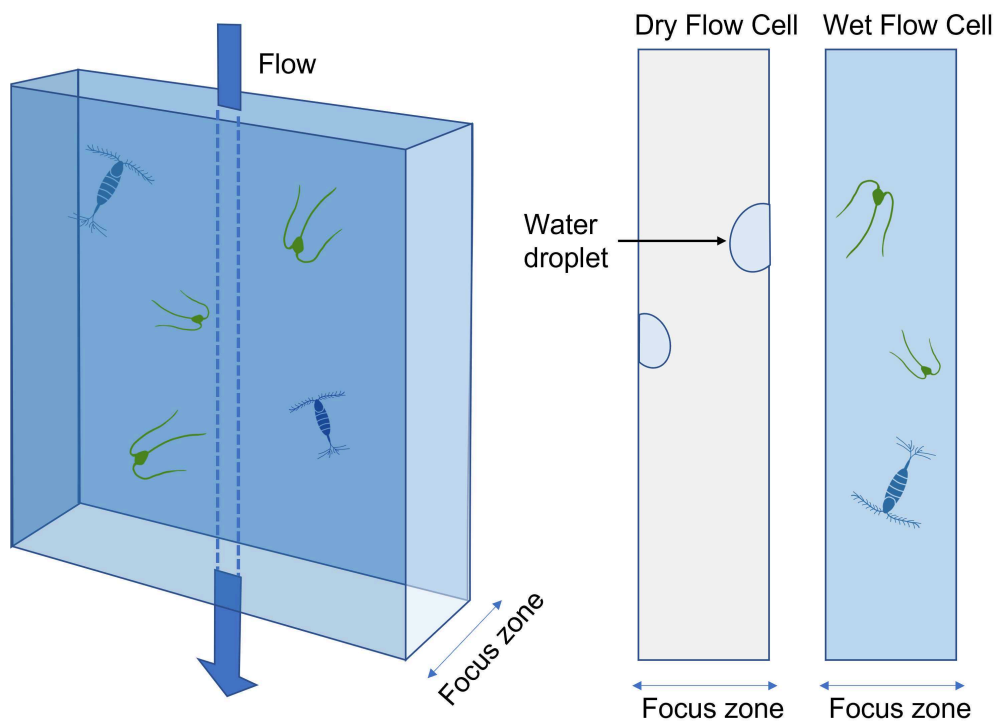
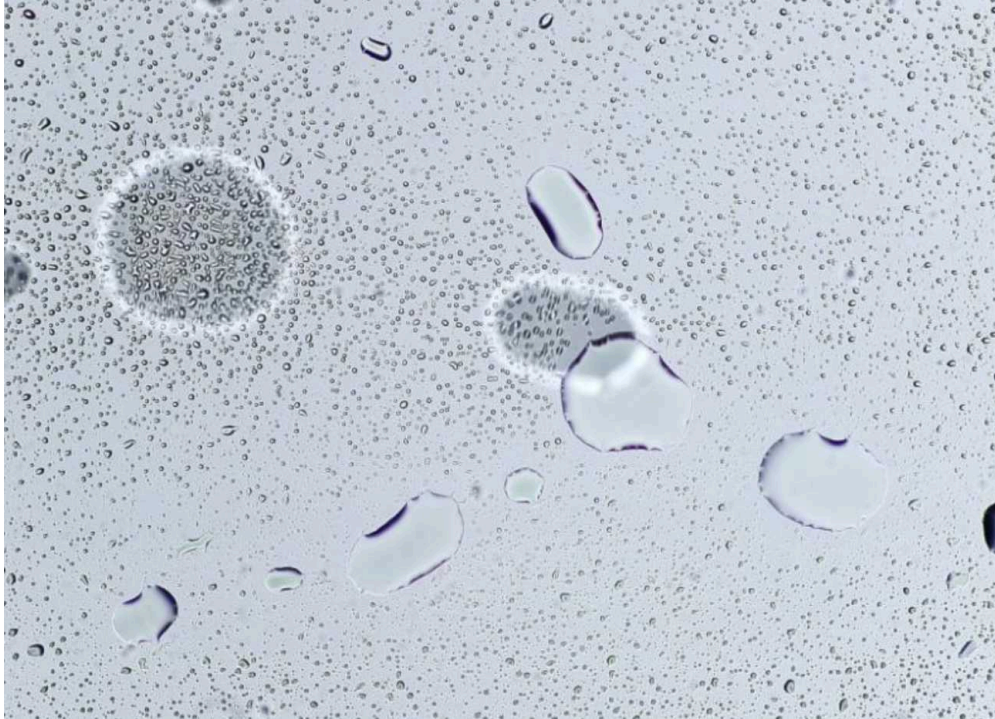

Figure 5: Focus zone of the Flow Cell
Figure 6: Water droplets
2. Check focus on the two sides of the Flow Cell, and try to have a focus between the two sides (Fig.5). In the Fig.6, you can see on a dry Flow Cell that has been exposed
On Fig.6, there is a good focus on the front, and you can see two more poorly focused water droplets on the back. The focused bubbles are on one side of the Flow Cell, which means you can now count the number of clicks it takes to get the bubbles in the back well focused. Multiplying the number of clicks by the distance of the button chosen to go from one side to the other gives the actual distance of the Flow Cell. Then divide this distance by two, enter the value in "Focus distance (μm)" and use the double arrows to focus in the middle of the 2 sides of the Flow Cell.